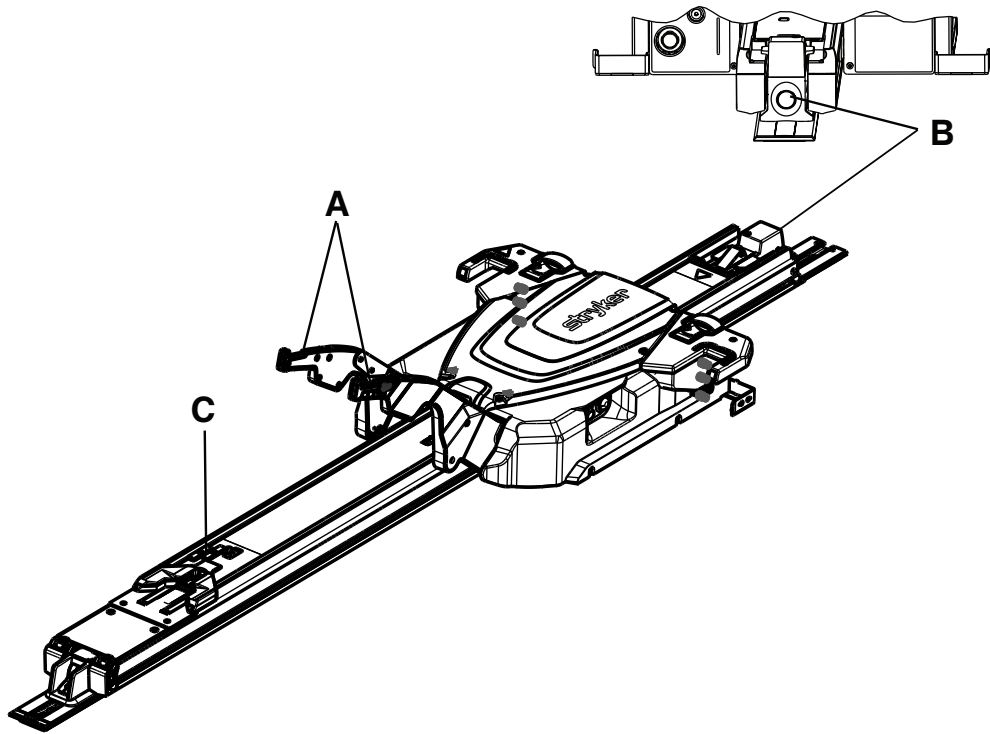

Figure 10 – Trolley mid transfer position
1. Raise the lifting arms (A) (Figure 10).
2. Press the trolley release button at the head end of the anchor (B) (Figure 10).
4. Slide the patient right transfer lock trigger (C) to extend (Figure 10).